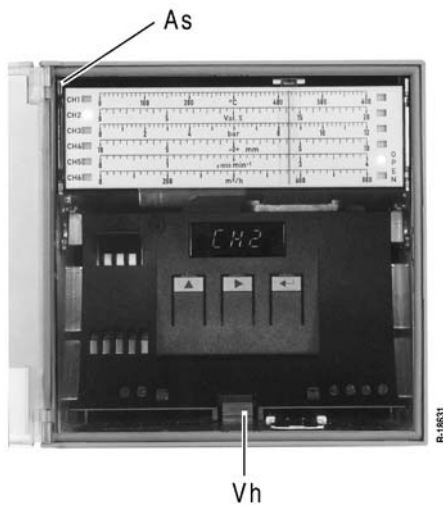

Figure 13 Removing the electronic unit
1. Loosen the arresting screw **As** (see Figure 13) and pull the system carrier approx. 2 cm forward.
2. Lift the interlocking lever **Vh** (see Figure 13) and simultaneously pull forward the unit.